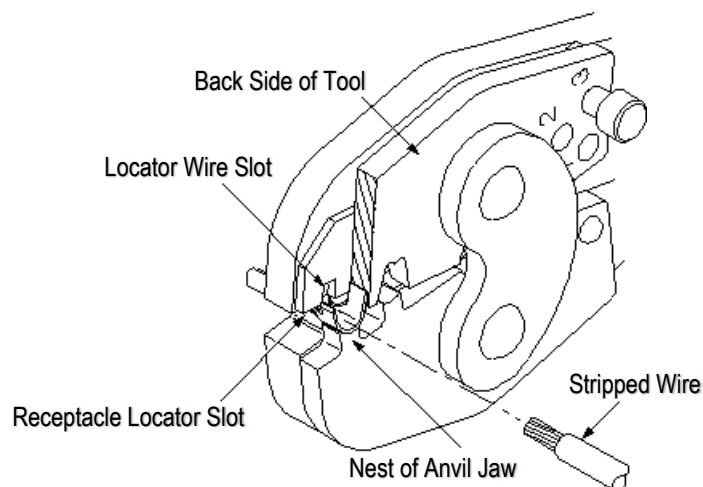

Figure 3
3. Center the receptacle wire barrel in the appropriate nest of the anvil jaw (refer to Figure 1). Make sure the tool locator enters the receptacle locator slot. See Figure 3.
5. Insert the stripped wire into the receptacle insulation barrel and through the wire slot of the tool locator until the wire insulation butts against the locator. See Figure 3.